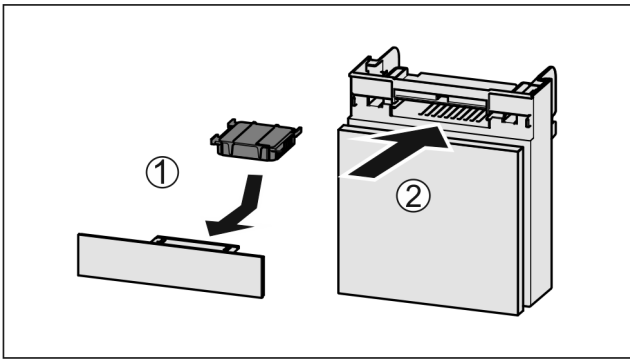

Fig. 193
- ▶ Insert the carbon filter as shown in the diagram Fig. 193 (1).
- ▶ Push the compartment in Fig. 193 (2).